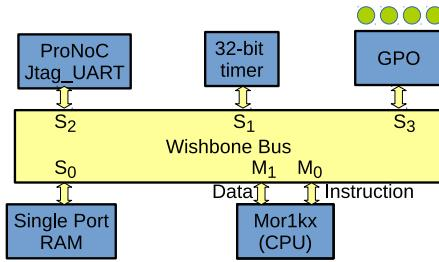

Figure 5.1: The schematic of the desired SoC in this tutorial.
Schematic Figure 5.1 illustrates the desired hardware architecture in this tutorial. This architecture consists of:
7. A Clock source (not shown in Figure 5.1).
2. In the parameter setting, set `M` (master interfaces number) as 2 and `S` (slave interfaces number) as 4. These values are obtained from Figure 5.1. You can change them later if you want to add/remove any IPs.